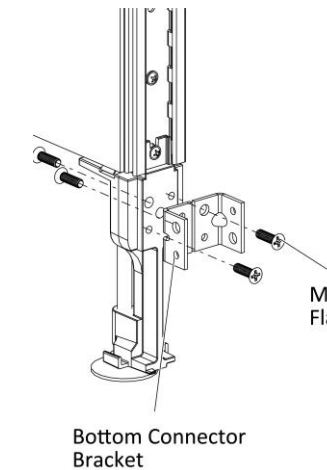

Figure 8
- 12. Position the two bottom corner brackets of the fourth panel, (Figure 8).